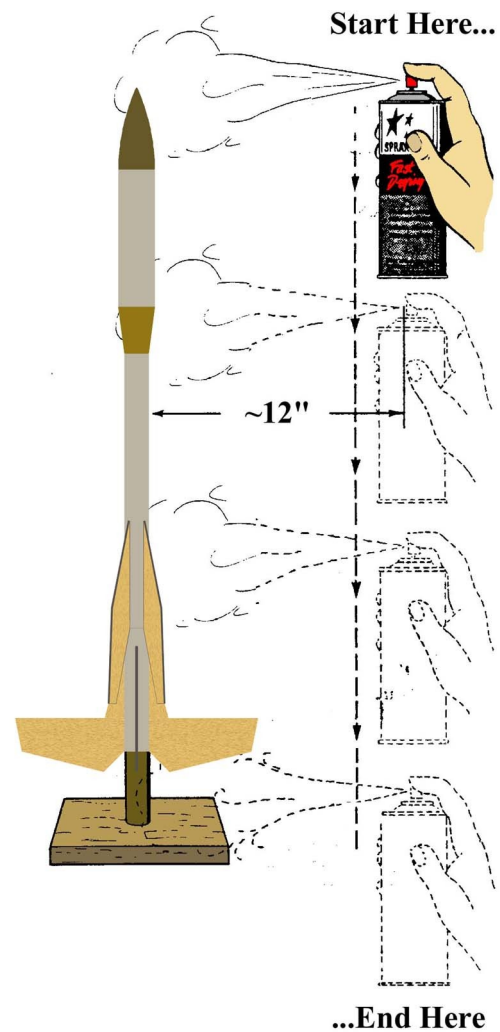

Figure 13
- **Step 21** The illustration in Fig. 13 shows the correct method for spraying your model, regardless of the equipment used. Keep the tip about 12" away from the model, and use a top-to-bottom spray pattern – **never** spray from side-to-side, or from bottom-to-top – to avoid runs in the spray. Use this technique for applying primer, paint, or the gloss coats.